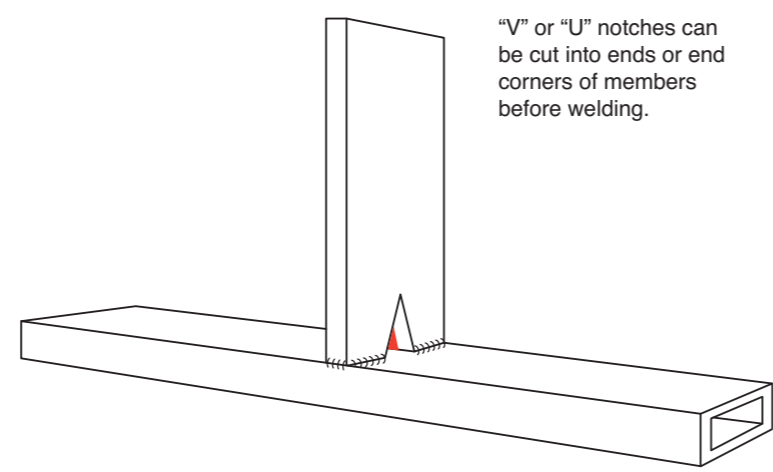

Fig. 3
- With hollow sections sealed at the ends, holes should be provided, again diagonally opposite one another, as near as possible to the ends of the hollow member (fig. 11). In some cases it may be more economical to provide 'V' or 'U' shaped notches (fig. 3) in the ends of the tubes, or to grind the corners off rectangular hollow sections. These procedures will provide ideal means for venting and draining.